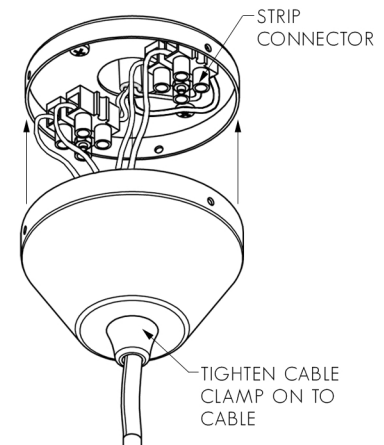

FIG. 4 - FASTEN CABLE USING CORD GRIP
1. FEED LED STRIP TAILS (OR CABLE) THROUGH HOLE IN EXTRUSION AND CLAMP USING CORD GRIP SUPPLIED (SEE FIG. 4). DO NOT INSTALL LED STRIP AT THIS POINT.